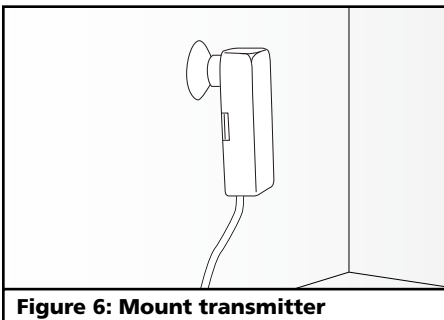

Figure 6: Mount transmitter
13. Next mount the transmitter on a smooth flat surface (Fig. 6).